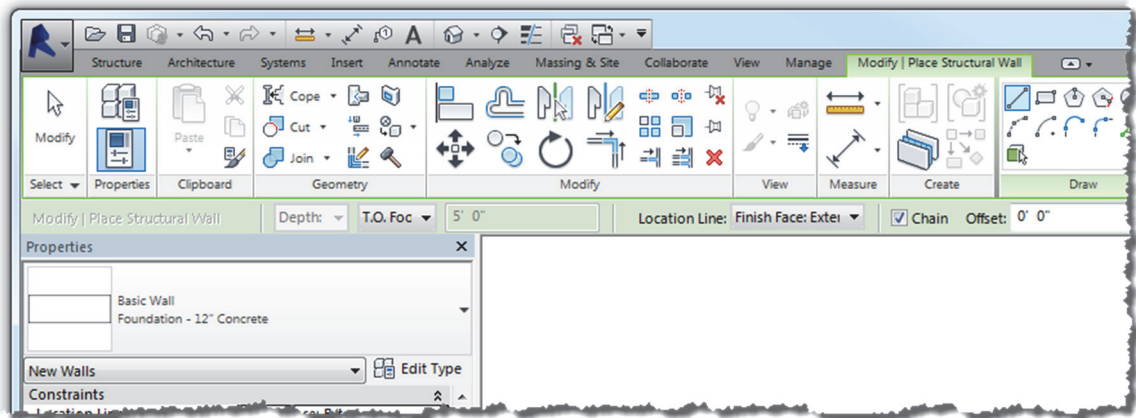

FIGURE 7-5.2 Wall tool – Ribbon and Options Bar for foundation walls
11. Set the *Type Selector* to **Foundation – 12" Concrete** (Figure 7-5.2).
12. Set the *Location Line* to **Finish Face: Exterior** on the *Options Bar* (Figure 7-5.2).
13. Make sure the *Depth* is set to **T.O. Footing** on the *Options Bar* (Figure 7-5.2).